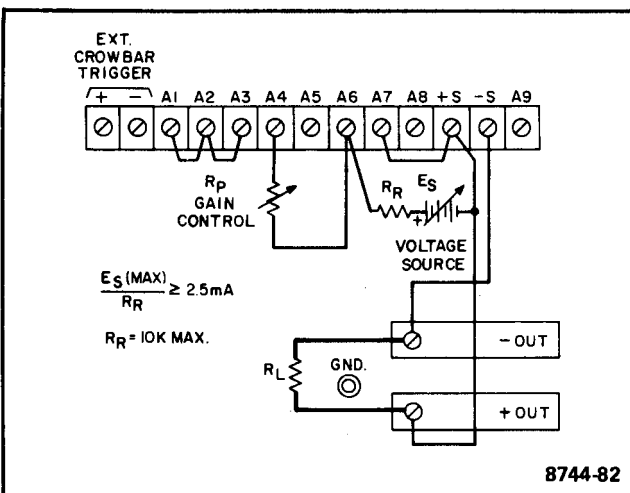

Figure 3-9. Voltage Programming of Output Current (Variable Gain)
**3-48 Constant Current Output, Voltage Input (Variable Gain).** In the remote programming arrangement shown in Figure 3-9, the series combination of external voltage source  $E_s$  and reference resistor  $R_r$  replaces the supply's internal current programming source. As a result, the voltage this external current source develops across gain control  $R_p$  becomes the reference against which the voltage drop across the output current sampling resistor is compared by the constant-current comparator. The relationship between  $E_s$  and the supply's output current depends on the resistance ratio  $R_p/R_r$  and on the constant-current programming coefficient ( $K_p$ ) of the supply. (These coefficients are given in paragraph 3-47.) The relationship between input voltage and output current is